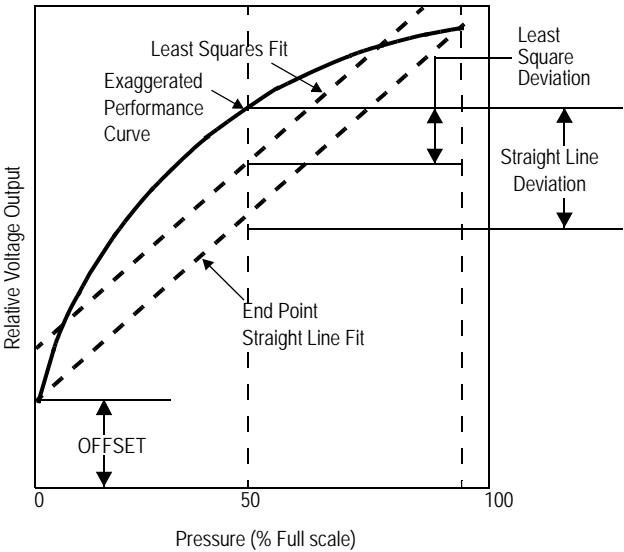

Figure 3. Linearity specification comparison
Linearity refers to how well a transducer's output follows the equation: $V_{OUT} = V_{OFF} + \text{sensitivity} \times P$ over the operating pressure range. There are two basic methods for calculating nonlinearity: (1) end point straight line fit (see Figure 3) or (2) a least squares best line fit. While a least squares fit gives the “best case” linearity error (lower numerical value), the calculations required are burdensome.